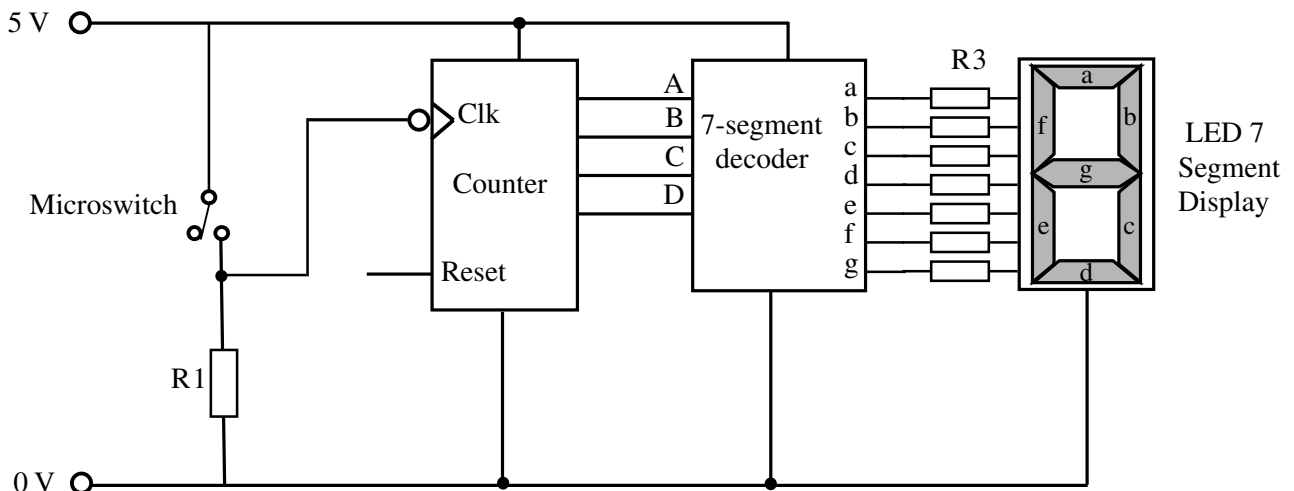

Fig. 2
- 2 **Fig. 2** shows an incomplete counter circuit that has been designed to count the number of bottles from a production line to be packaged in a crate. Each crate holds six bottles. As the bottles pass and activate a microswitch, the number is displayed on an LED 7-segment display.
- (a) State the function of the resistor labelled R1 in **Fig. 2**. [1]
- (b) The counter in **Fig. 2** operates when a falling edge trigger is received at the Clk input. Explain with the aid of a diagram what is meant by the term falling edge trigger. [2]
- (d) During testing, it was found that the counter in **Fig. 2** was sometimes adding 2 or 3 to the count even though only one bottle was passing the microswitch. Explain a likely cause of this problem and suggest a modification to the circuit that would overcome this problem. [4]
- (f) It has been proposed that the LED 7-segment display in **Fig. 2** be replaced by an LCD type. State **one** advantage and **one** disadvantage (excluding cost considerations) of LCD type displays compared to LED type displays. [2]